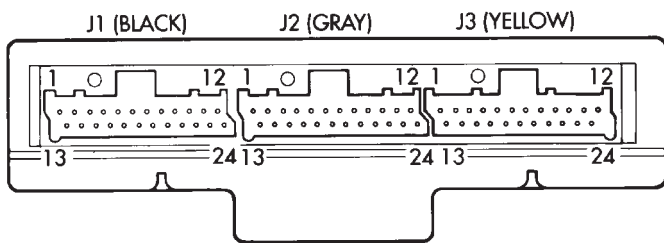

Fig. 12 Body Control Module J3 Connector
(6) Using an ohmmeter, check from terminal D of the HI-LO wiper relay to terminal 2 of the body wiring harness connector at motor for continuity. Check from terminal E of the HI-LO wiper relay to Pin 3 of the wiring harness connector at motor for continuity. If OK, go to step 7. If not repair as necessary.
(7) Using an ohmmeter, check for continuity between the HI-LO wiper relay and the intermittent wiper relay. Check from terminal B of the HI-LO wiper relay to terminal B of the intermittent wiper relay. If OK, check for faulty relays. If not repair as necessary.
(8) Disconnect the J3 24-way connector from the body control module (Fig. 12).